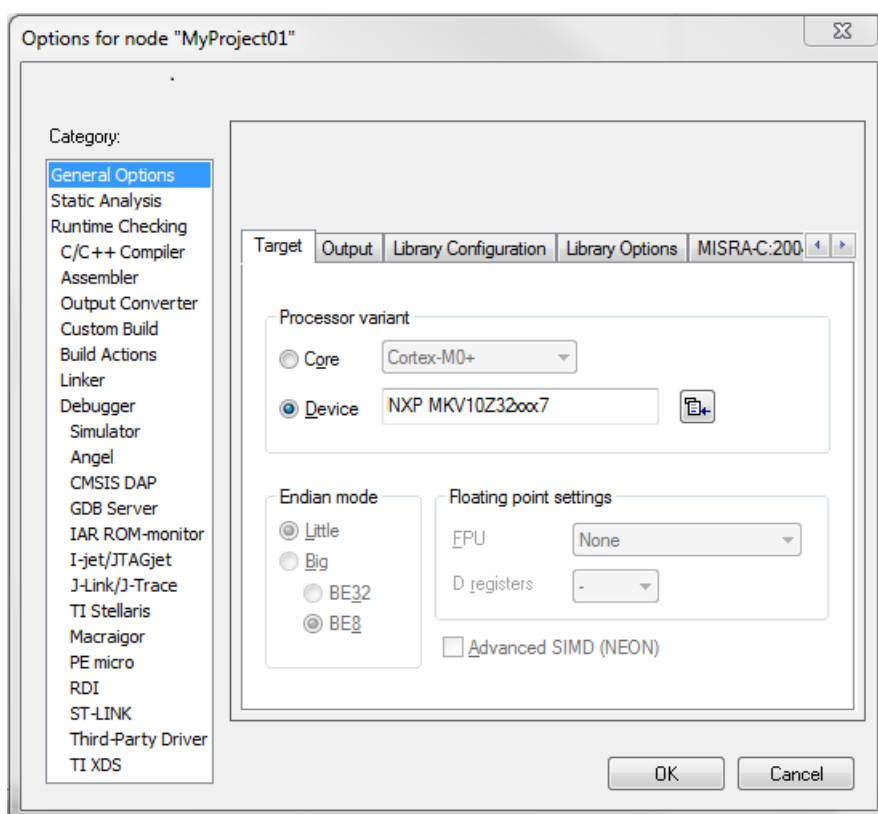

Figure 1-38. Options dialog
6. In the Target tab, select the Device option, and click the button next to the dialog to select the MCU. In this example, select NXP > KV1x > NXP MKV10Z32xxx7 Click OK. See Figure 1-38.